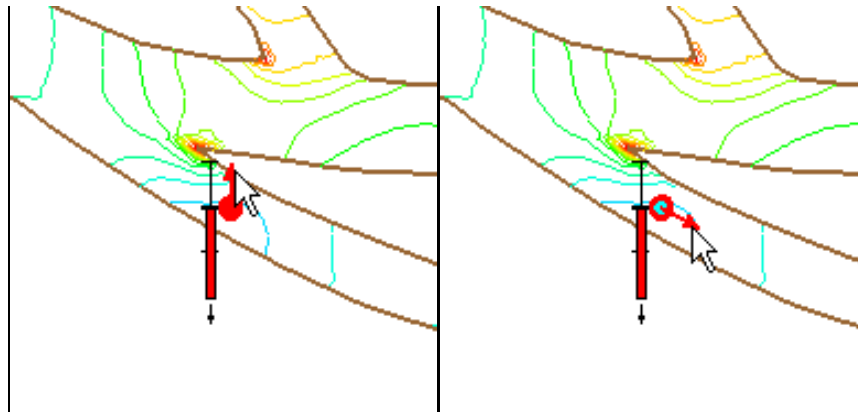

Figure 2 "Point 1" with an arrow angle of 0° and then rotated to 120°
2. Zoom in and rotate the point arrow approximately 120° by dragging the end of the arrow clockwise. Do not worry if this angle is not exactly 120°. The arrow just needs to be pointing in the general direction the velocity meter was set up in the field. This is usually in the direction of flow. Figure 2 shows a close-up of *Point 1* with the arrow pointing up (0° angle) and then the position of the arrow at an angle of approximately 120°.